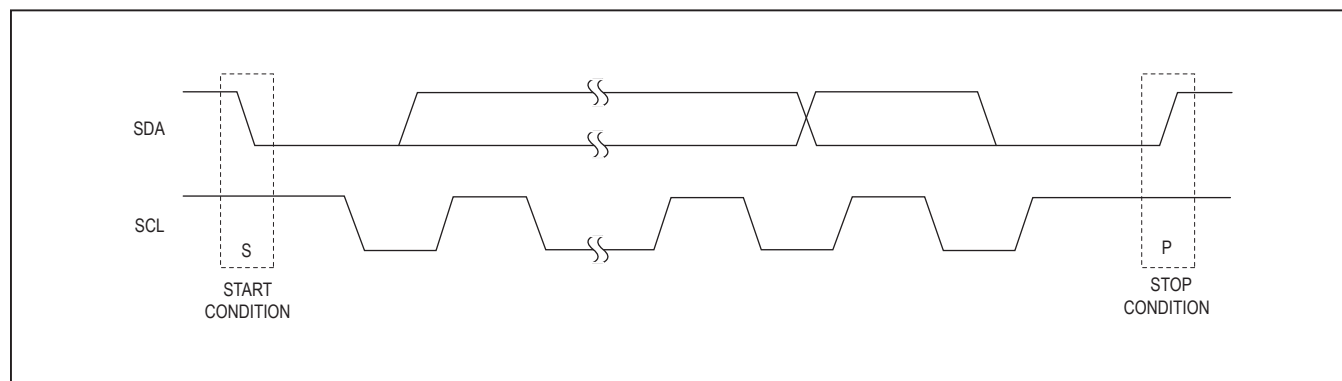

Figure 7. Start and Stop Conditions
Both SCL and SDA remain high when the interface is not busy. A master signals the beginning of a transmission with a START (S) condition by transitioning SDA from high to low while SCL is high (Figure 7). When the master has finished communicating with the slave, it issues a STOP (P) condition by transitioning SDA from low to high while SCL is high. The bus is then free for another transmission.